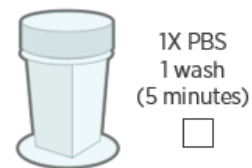

Figure 45: Wash for 5 minutes in 1X PBS
9. After nuclear stain incubation, **remove slides one at a time** from staining tray, gently tap slide on a clean Kimwipe to remove excess buffer, and **transfer slide to 1X PBS** (Figure 45).